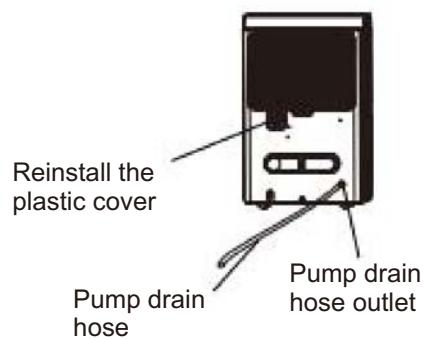

Fig. 11
- Remove the continuous drain hose from the unit and install the plastic cover to the continuous drain hose outlet of the unit by clockwise rotation.(See Fig.11)
- Resert the pump drain hose into the pump drain hose outlet for depth of 15mm at least (See Fig.11), then lead the water hose to the floor drain or a suitable drainage facility.